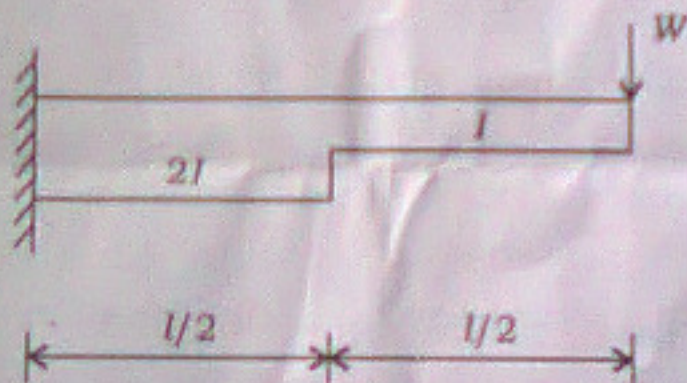

Fig. 5
6. Using moment area method, find the slope and deflection at the free end of cantilever as shown in Fig. 5.